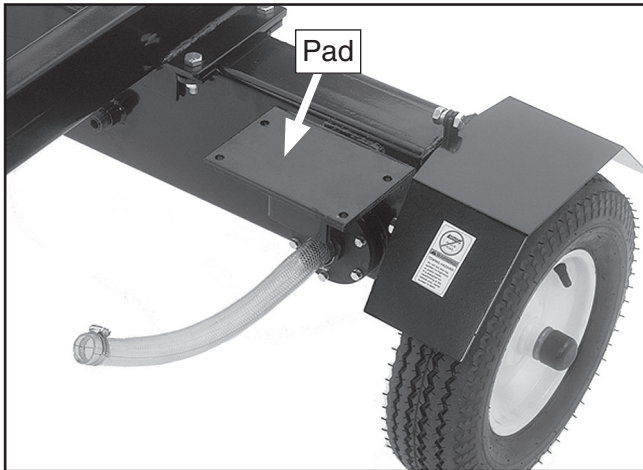

Figure 12. Engine mounting pad.
15. Prepare the engine mounting plate by removing any dirt, paint chips, or foreign material, and place the engine onto the pad shown in **Figure 12**.